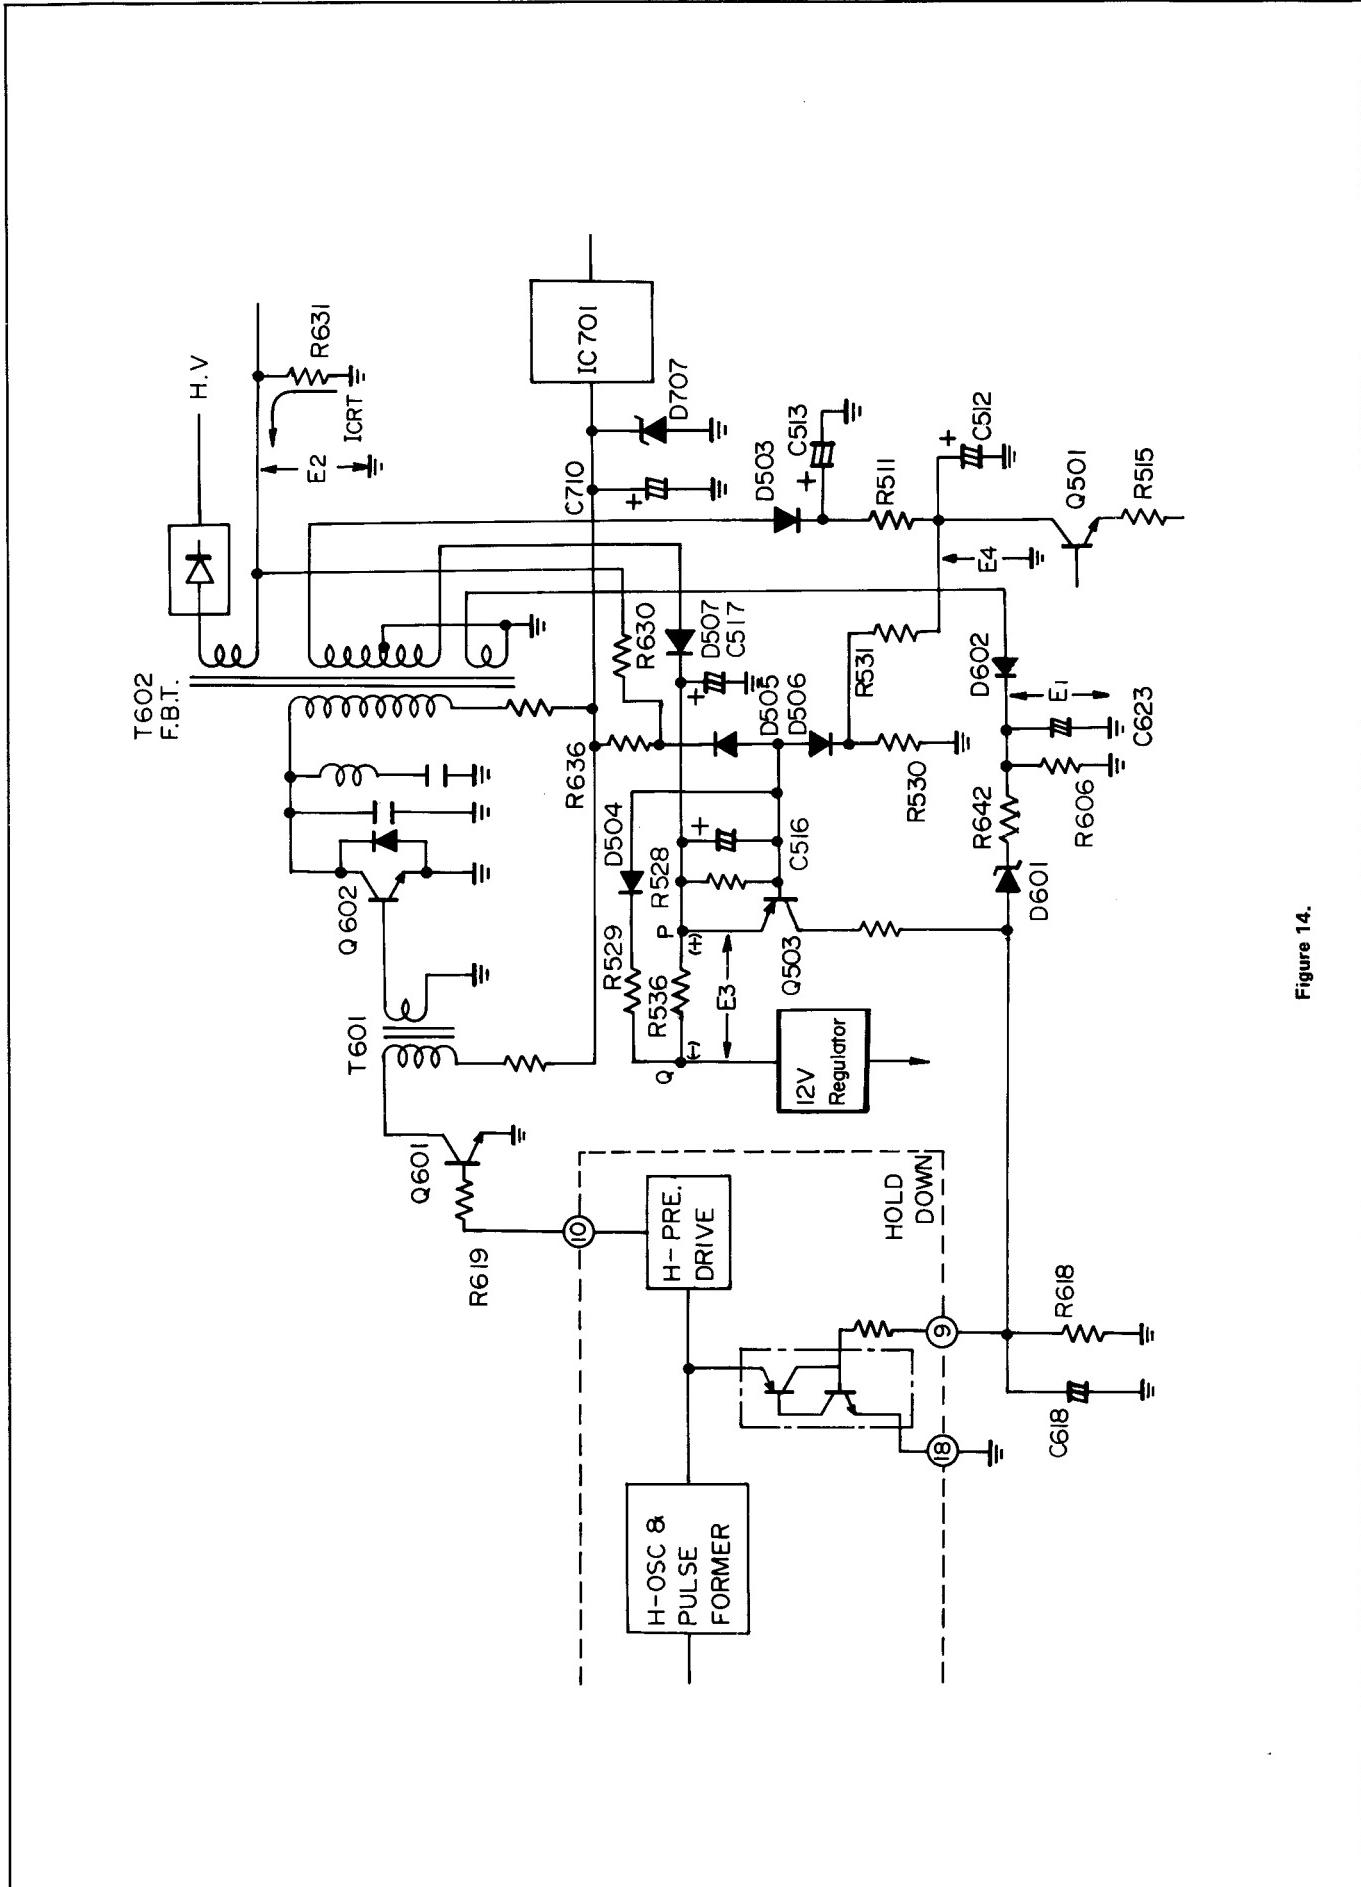

Figure 14.
- (1) D707: This circuit is shorted to open the F701 at excessively increased 115V line source. If the regulator IC701 is shortcircuited by troubles, the diode activates. Once the shortcircuiting of D707 occurs, troubleshoot and repair, and replace the unresettable D707 with new one. D707 requires about 135V to start conducting.
- (2) Horizontal/vertical IC hold-down functions (including the trouble detector transistor Q503): the simple hold-down functions of IC501 are described below. The horizontal oscillation voltage, in Fig. 14 is converted into square waves at the pulse former circuit, and sent to the H-pre. driver circuit.
All the power for TV signals are obtained from +12V source. If the short-circuiting occurs at the 12V line, the voltage E_3 is developed across R536. (See Fig. 14 for its polarity). The voltage level at point Q is much smaller than that at point P. The voltage at Q is then sent to the cathode of D504 via resistor R529. The anode of D504 is connected to the base of the transistor Q503. The point P is the emitter of Q503, and the transistor Q503 turns on with decreased base voltage. The trouble detector transistor Q503 activates to protect the circuit.